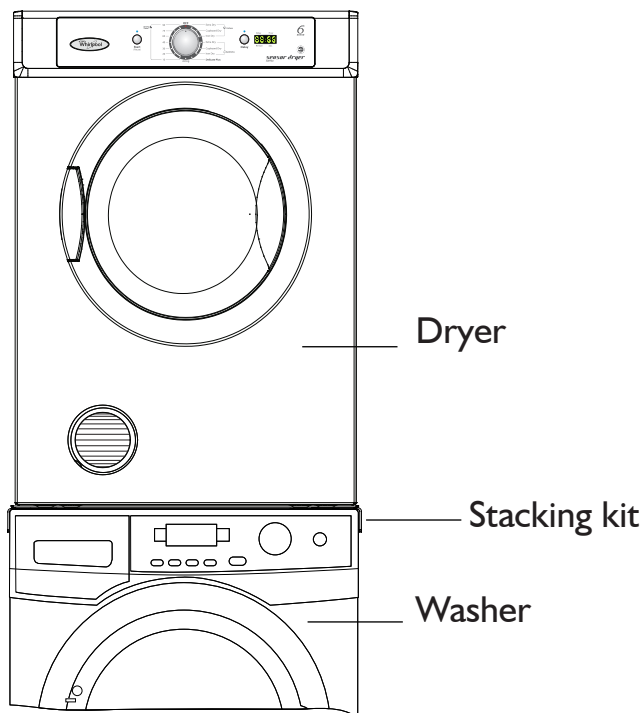
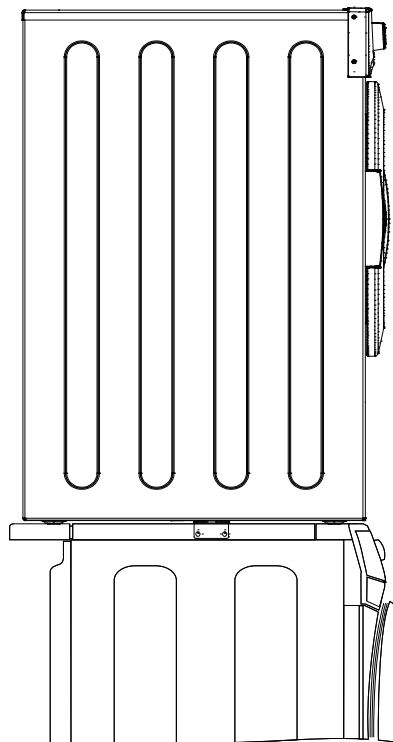

Fig.3
Fig.4
2. Install the dryer with stacking kit on the top of the front load washing machine (Fig.3). Drill two holes on both sides of washer with 2.9mm diameter drill. Detailed drill position as shown on the stacking kit. Make sure the included screws are used. Fix the stacking kit on the top cover of washing machine, as shown on Fig.4.